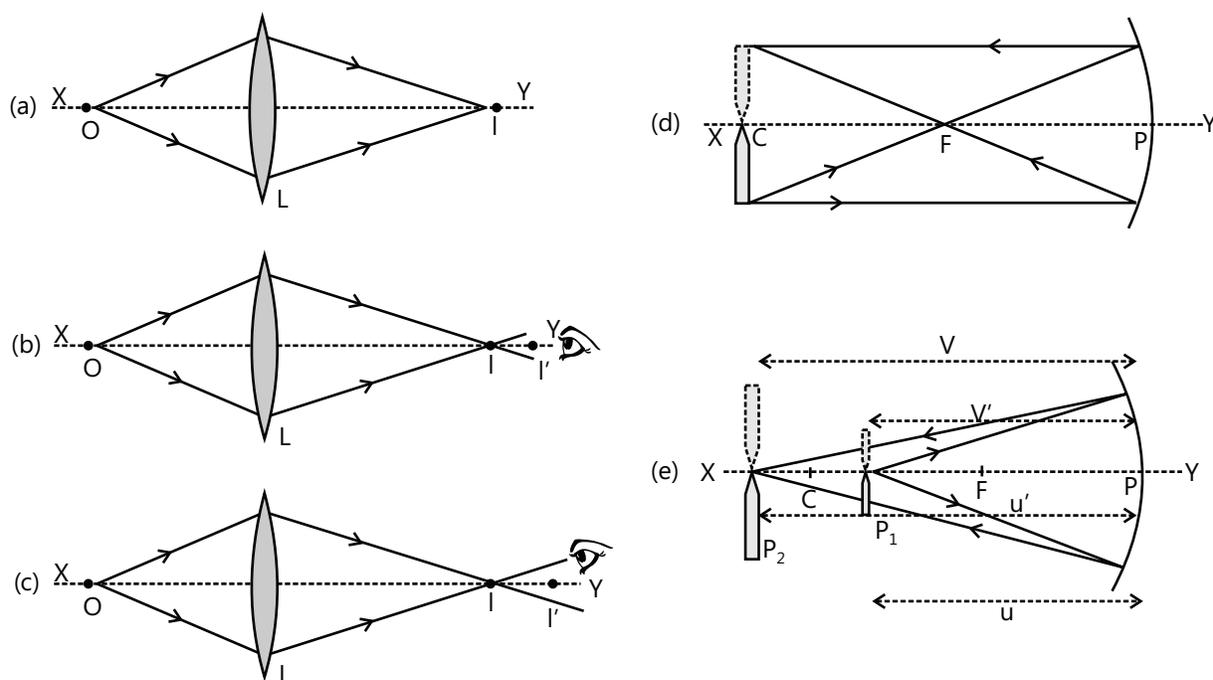

Figure 27.27
**Parallax:** This is employed in the location of image of an object. For example, as shown in the Fig.27.27 (a) O and I are the object and image points for a mirror / lens.